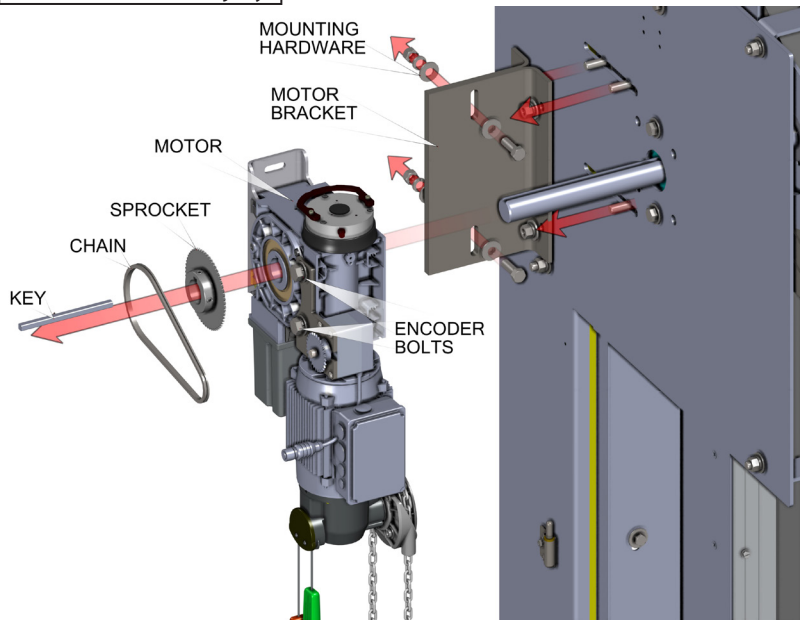
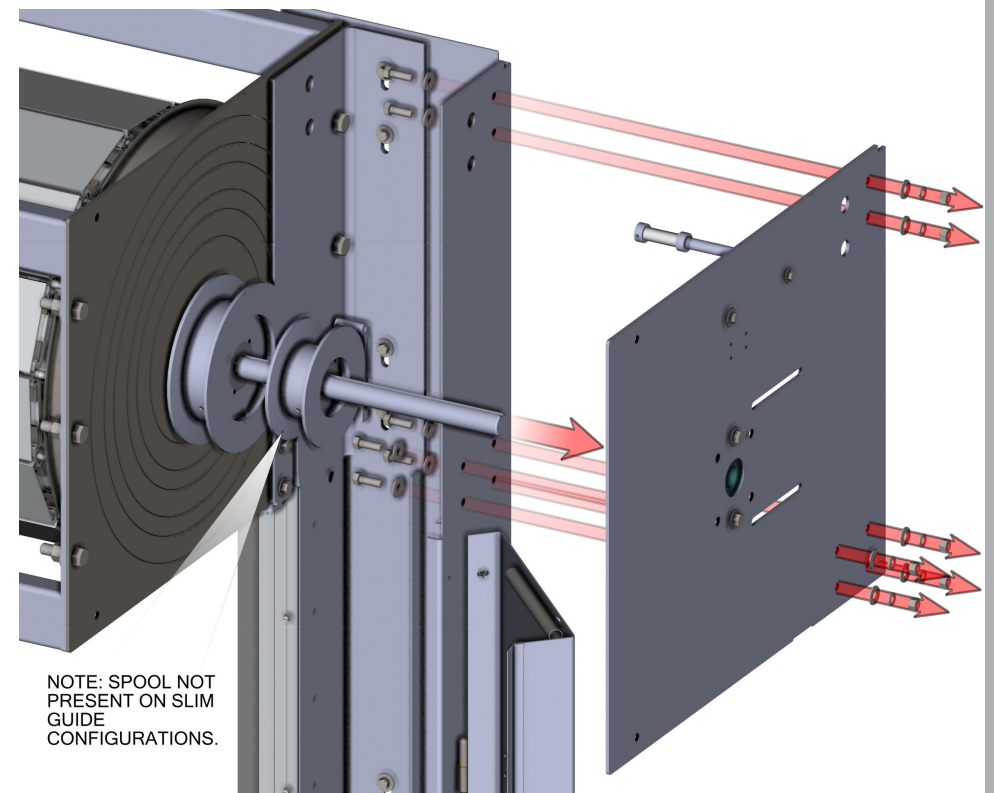

FIG 4.0
FIG 4.1
4. Remove the encoder bolts and take chain off sprockets. Next, remove the encoder and sprocket from the motor and set aside. Unbolt the motor and set aside. Slide the motor off from the shaft and set the motor aside. Remove bolts from side plate, as shown in **FIG 4.0**. Remove plate and set the aside, as shown in **FIG 4.1**.